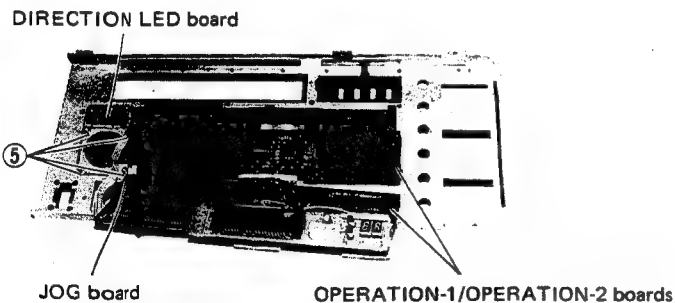

Fig. 1-12
- 3) Take apart the OPERATION-1, COUNTER and FRONT LED boards (see Fig. 1-12).
- 2) After removing the screw ⑤ fixing this assembly to the front panel, take off the main body of this assembly. (see Fig. 1-12)